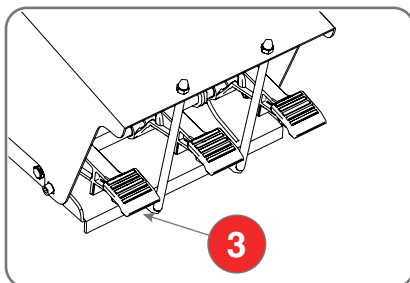

Fig. 6.10
- Press the pedal (3 - Fig.6.10) to release the turntable clamping system.
- Release the pedal (3 - Fig.6.10).